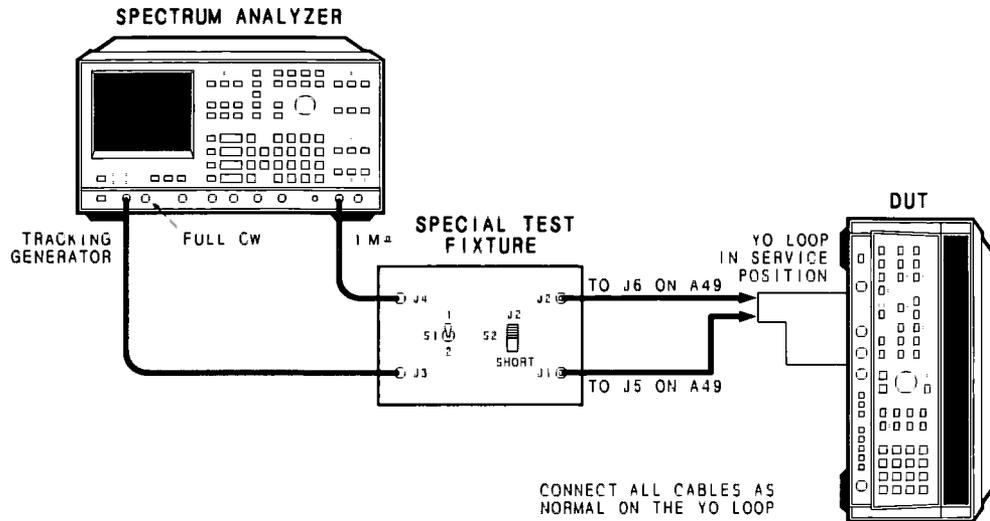

Figure 5-24. YO Loop Gain Test Setup
22. Connect the Special Test Fixture and the Spectrum Analyzer to the YO Loop as shown in Figure 5-24.